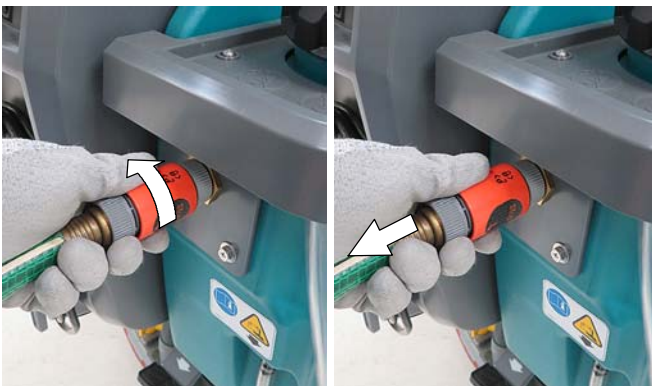

FIG. 27
- Turn collar on coupler counter-clockwise to unlock connection. Then simply pull back on coupler to disconnect hose from machine (Figure 27).